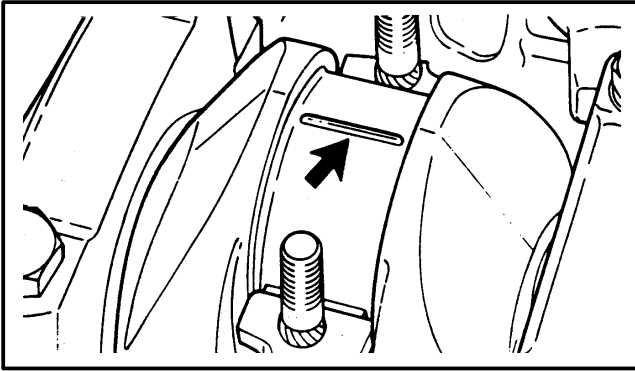

FIGURE 21. PLASTIGAGE® ON A BEARING JOURNAL
- a. Put a piece of Plastigage across the full width of the bearing journal as shown in FIGURE 21. Do not rotate the crankshaft when the Plastigage is between the bearing and its journal.